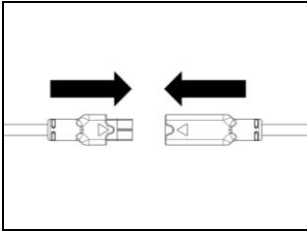

Fig. 38
- Connect the microphone to the connector coming out of the e-box (Fig. 38).